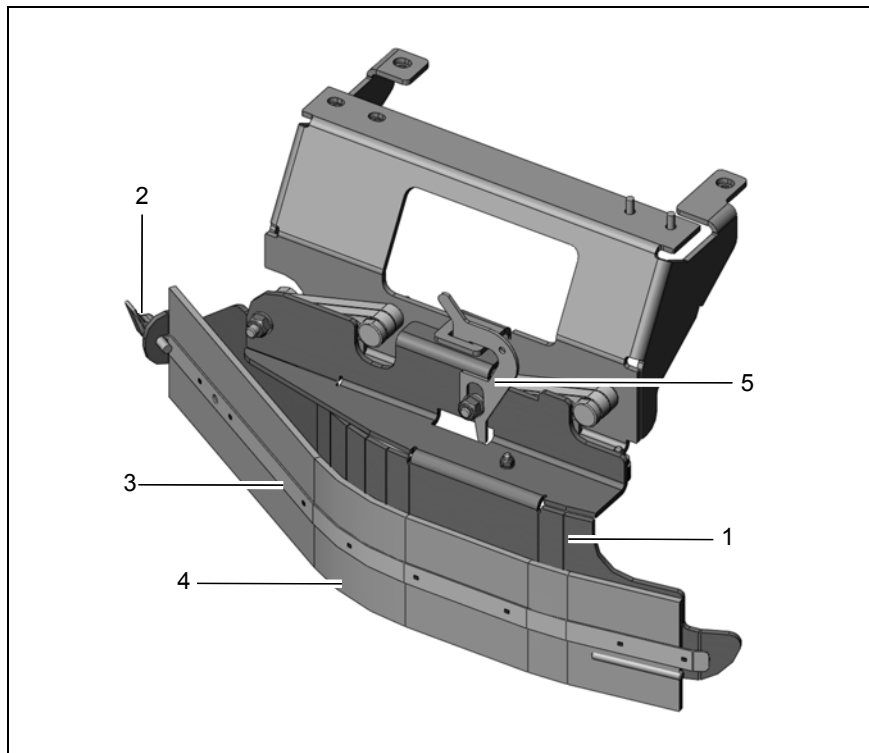

Fig. 27
- 1. Open the locking hooks (Fig. 27/1).
Check the deflector rubber (Fig. 27/4) daily or as required and change it when necessary.
- 1. Loosen the wing nut (Fig. 27/2).
- 2. Slide the clamping rail (Fig. 27/3) to the front until the hooks on the inner side are free and the clamping rail can be moved away.
- 3. Change the deflector rubber (Fig. 27/4).